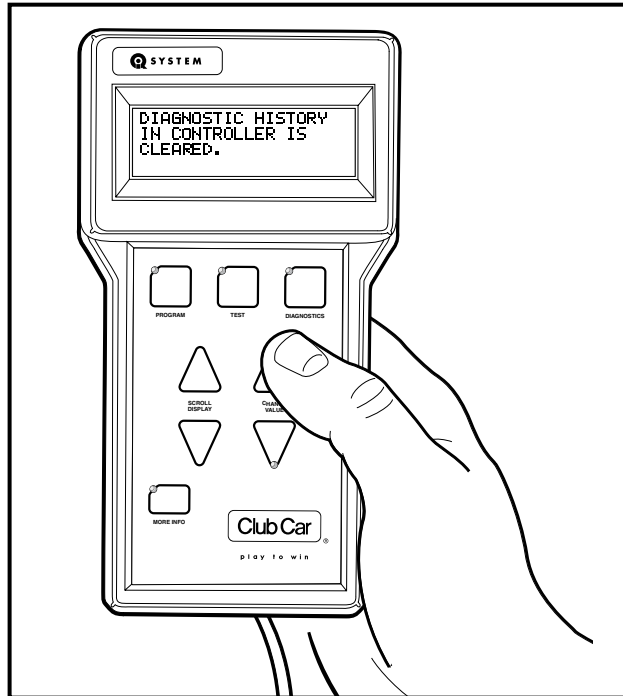

Figure 21 Diagnostic History Cleared
7. The diagnostic history is immediately erased and a confirmation message is displayed (**Figure 21**).